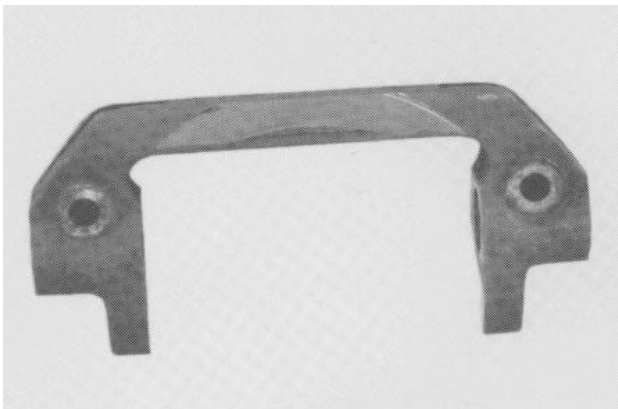

**Figure 36 Excessive Housing Cover Wear**
3. Excessive housing cover wear can be caused by a linkage system out of adjustment or driver shift technique (Figure 36).